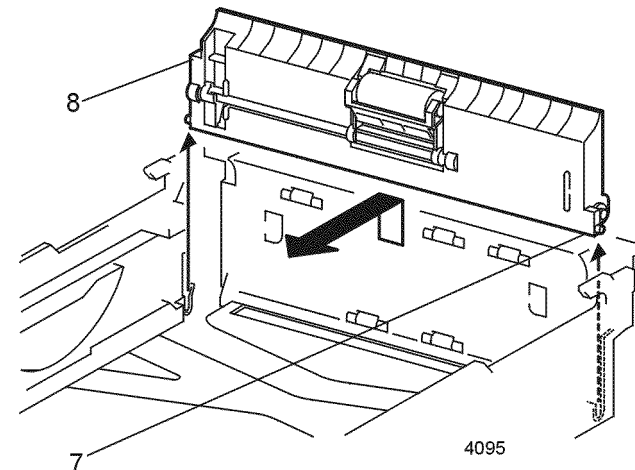

Figure 1 Retard Chute Assembly
7. Use a screwdriver to pry up the right end of the chute (Figure 1).
8. Slide the chute to the right and remove (Figure 1).